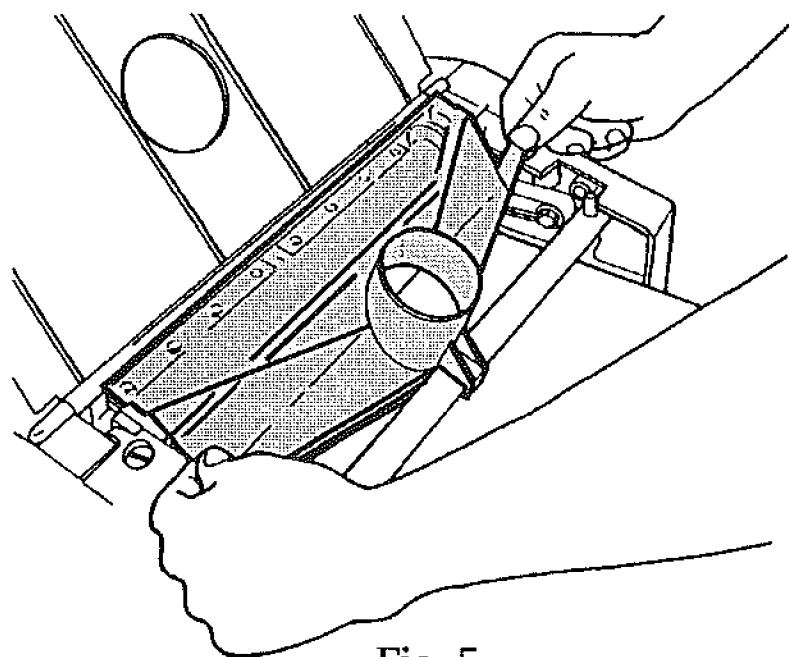

Fig. 5
6. Cautiously but firmly press in (toward the center) on the two top wing tabs, as shown in Fig. 5. At the same time gently press downward. The dust chute assembly should snugly pop into place.